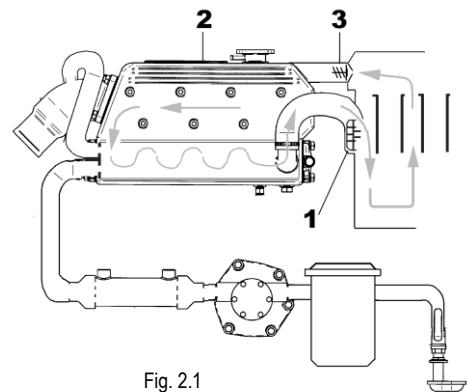

Fig. 2.1
2.2.1 "FRESHWATER" COOLING CIRCUIT (Fig. 2.1)